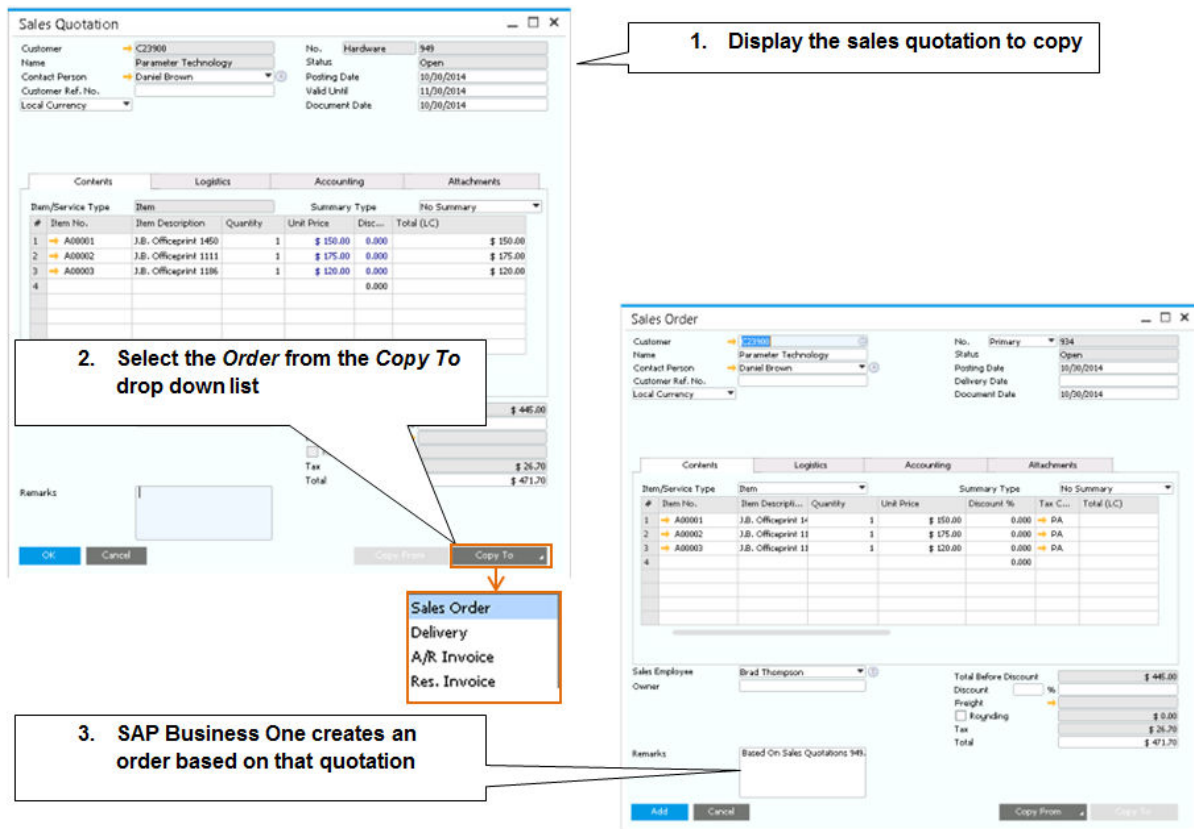

Figure 5-5: Copying a sales quotation to a sales order
*Gross Profit* is calculated by finding the extended sales prices (sales price multiplied by the quantity) minus the extended base price (base price multiplied by the quantity). You can always go back and update base amounts, even if the sales document is already closed. Note that there is not effect on the accounting figures in this case. The *Profit %* is calculated depending on settings on the *Administration* → *Document Settings* → *General* tab, where you specified whether gross profit percentage is the ratio of gross profit to sales price or gross profit to cost price. On the *General* tab of the *Document Settings* window, you can set the default for how the base price is calculated: the item cost (the default shown in Figure 5-5), a specific price list, the cost of the item, which is the recommended option, the last purchase price, and so forth.
You can create a sales order either from a sales quotation or from scratch. Figure 5-5 shows how to create a sales order from a sales quotation using the *Copy To* button.